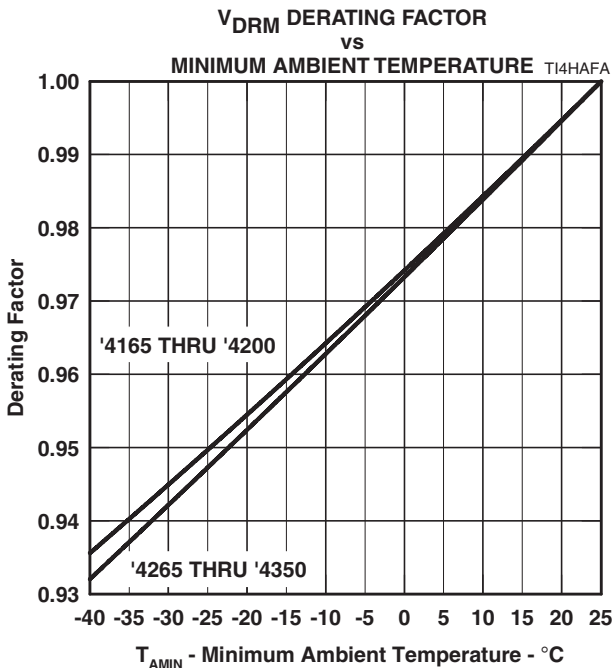

Figure 10.
- NOTES: 1. See Applications Information and Figure 10 for voltage values at lower temperatures.
The protector should not clip or limit the voltages that occur in normal system operation. For unusual conditions, such as ringing without the line connected, some degree of clipping is permissible. Under this condition, about 10 V of clipping is normally possible without activating the ring trip circuit. Figure 10 allows the calculation of the protector V_{DRM} value at temperatures below 25 °C. The calculated value should not be less than the maximum normal system voltages. The TISP4265H4BJ, with a V_{DRM} of 200 V, can be used for the protection of ring generators producing 100 V r.m.s. of ring on a battery voltage of -58 V (Th2 and Th3 in Figure 17). The peak ring voltage will be $58 + 1.414 \times 100 = 199.4$ V. However, this is the open circuit voltage and the connection of the line and its equipment will reduce the peak voltage. In the extreme case of an unconnected line, clipping the peak voltage to 190 V should not activate the ring trip. This level of clipping would occur at the temperature when the V_{DRM} has reduced to $190/200 = 0.95$ of its 25 °C value. Figure 10 shows that this condition will occur at an ambient temperature of -22 °C. In this example, the TISP4265H4BJ will allow normal equipment operation provided that the minimum expected ambient temperature does not fall below -22 °C.